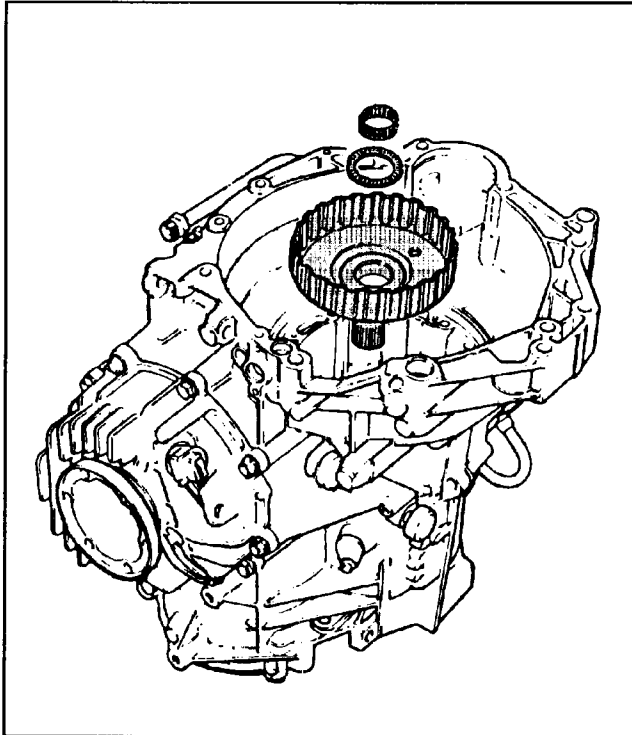

Figure 148
19. Install the large driveshaft into the case, and spline into the small sun gear (See Figure 148).
20. Install the two Torrington bearings into the large driveshaft (See Figure 148).